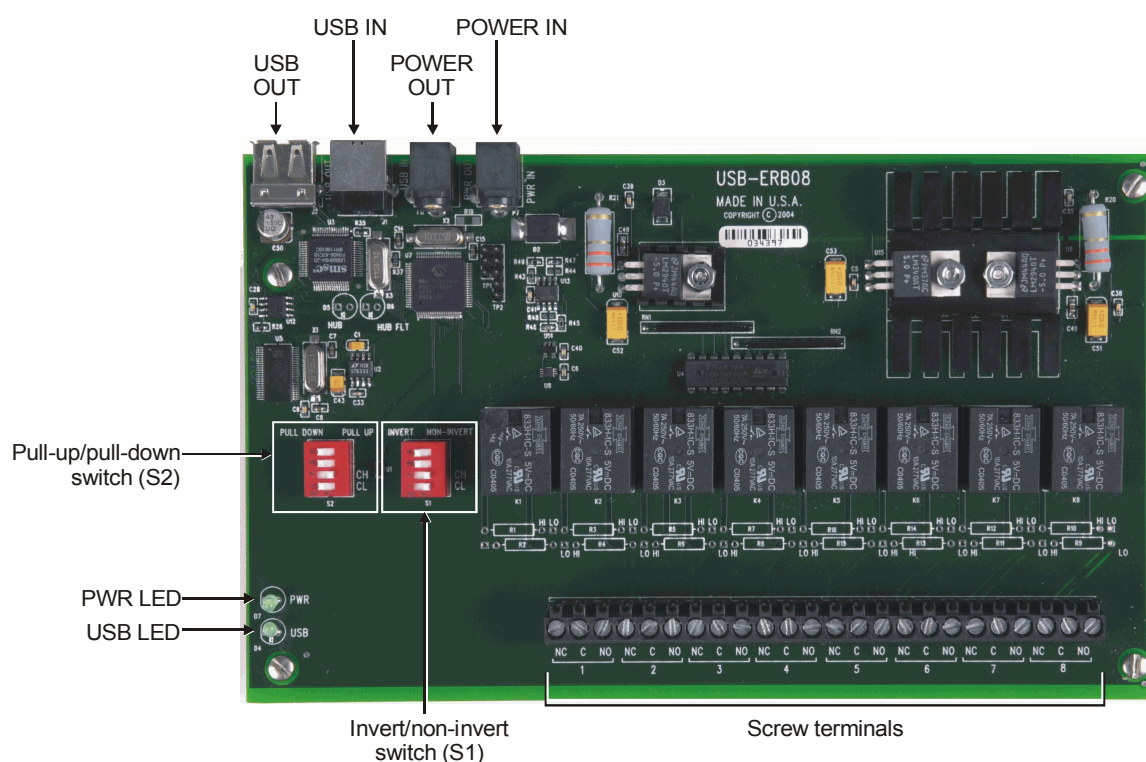

Figure 3-1. USB-ERB08 components
The USB-ERB08 has two on-board switches that you set to configure the relay control logic polarity and relay power-on state. Factory-configured default settings are listed in Table 2-1. Refer to Figure 3-1 for the location of each switch on the USB-ERB08.
1. Connect the external power cord to the power connector labeled **POWER IN** on the USB-ERB08 enclosure (**PWR IN** on the board). Refer to Figure 3-1 for the location of this connector.
The USB-ERB08 has the following internal components, as shown in Figure 3-1.